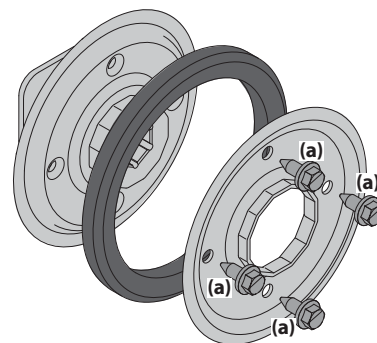

Figure 4-24
1. Remove four screws (a) which secure friction wheel's side plates together. See Figure 4-24.